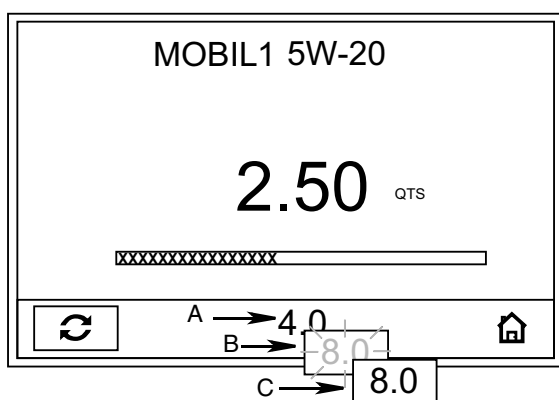

FIG. 23
For example, in FIG. 23 (below) the original, confirmed Preset Dispense amount (A) was 4.0 qts. The amount was increased to 8.0 quarts and because it has not been confirmed, is flashing on the screen (B). After the user confirmed this change by pressing the center ENTER button on the key pad, the new dispense amount no longer flashes and is now set to dispense 8.0 quarts (C).